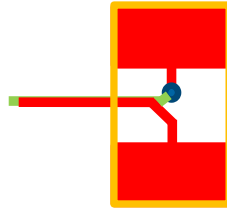

Figure 142. Recommended Layout Pattern for Current-Sense Traces Regulator
- (12) The current-sensing traces must be laid out very carefully since they carry tiny signals with only tens of mV. For the current-sensing traces close to the power sense resistor (R_{SEN_x}), the layout pattern shown in Figure 142 on page 143 is recommended. Assuming the R_{SEN_x} is placed on the top layer (red), route one current-sense connection from the middle of one R_{SEN_x} pad in the top layer under the resistor (red trace). For the other current-sensing trace (green trace), from the middle of the other pad on R_{SEN_x} top layer, after a short distance, via down to the second layer, and route this trace right under the top layer current-sense trace.
- Current-sensing resistors, sometimes called “shunts”, require special considerations during their layout. These devices must be connected Kelvin style as shown in Figure 142 on page 143. The sensed voltage must be sensed exactly at the shunt terminals. A common problem encountered routing shunts, is that if one side of the shunt is connected to a common terminal, such as GND or BAT12, a layout tool does not flag an error if this connection is not geometrically correct! Verify that the shunts are Kelvin connected. Specific to the ISL78224, each of the four phase resistors measure current into or out of BAT12, and the flyback shunt measures current into ground. Voltages measured on shunts are always necessarily small. They are also the most common victim seriously enough affected by a layout error to render the layout inoperable. Do not route shunt traces near aggressors such as phase nodes. Shunt routing and the controller IC itself should be placed favoring the lower noise BAT12 side of the board. Current-sense trace pairs should be placed side by side or one on top of the other as shown in Figure 142.